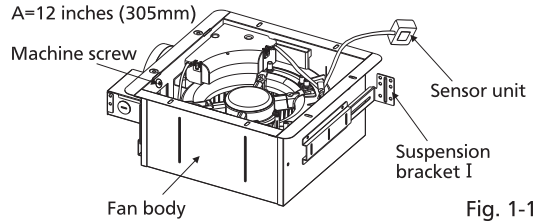

Fig. 1-1
- Remove the machine screw (Fig.1-1) and keep it in a discoverable place.